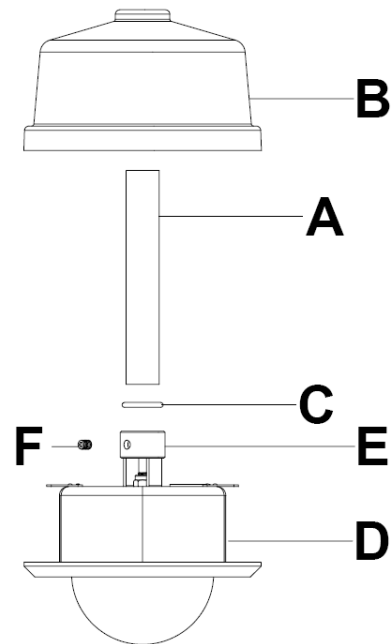

Figure 1
COMPONENT LIST [Figure 1]
1. Carefully unpack box and verify that all components listed are included [Figure 1].